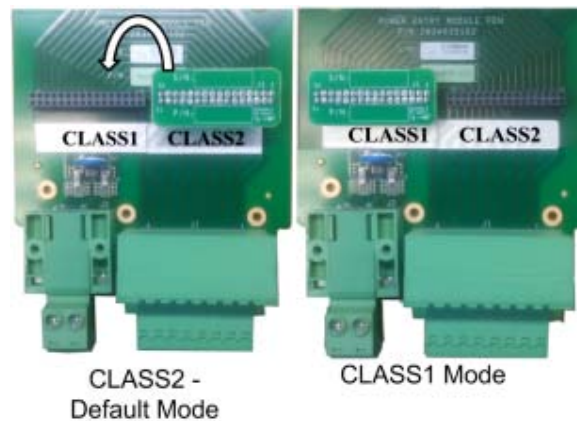

Figure 4-23. Setting CLASS1 Mode
2. Move DC bridge from CLASS2 position to CLASS1 to set DC input source type to 'CLASS1' connector. Refer to Figure 4-23.